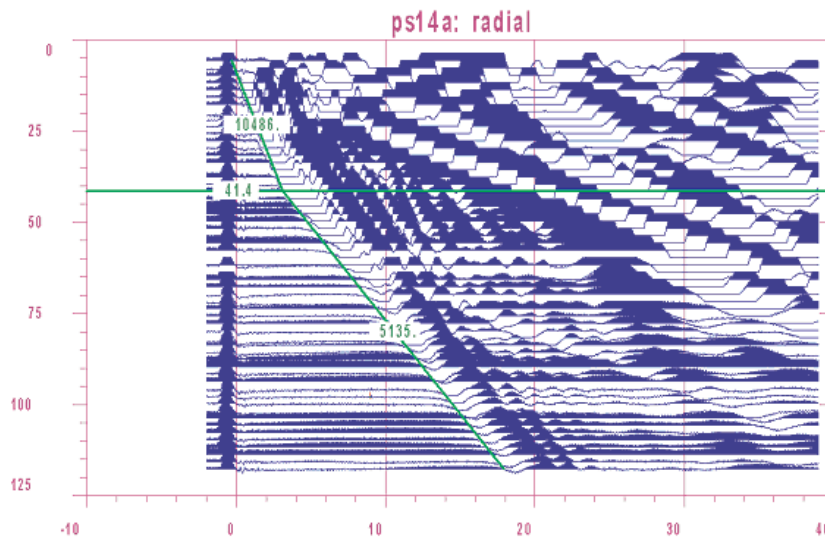

Figure 16: PS Interpreted Example
8. The last step involves interpreting the data, to find the bottom of the structural element. In good quality data, there is a clean break in first arrivals, indicating the bottom of the element. When this change of slope or change in move-out velocity is identified, then the velocities can be fit to the data. This is done by right clicking with the mouse at the top left corner of the slope and bringing the mouse down the screen so that the line rests on the first arrival. Then the user should release the mouse button and select the appropriate name for the velocity. It should be noted at this time that the foundation velocity (the upper portion of the data) must be designated as the soil data and that the soil velocity (the lower portion of the data) must be designated as the foundation velocity. This is due to a glitch in the program that has not currently been fixed by its manufacturer. Please see Figures 16 and 17 for interpreted examples.